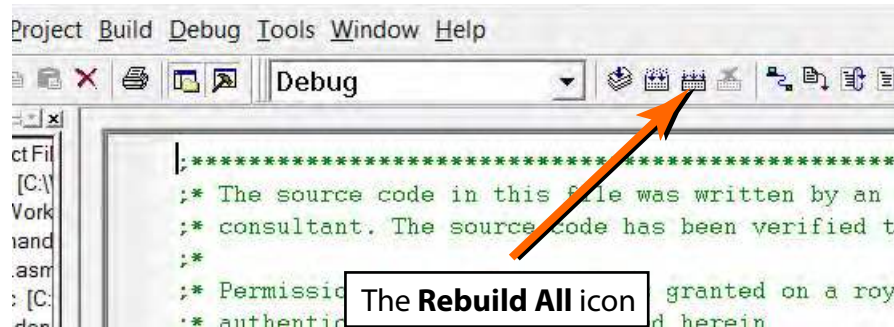

Figure 7. The Rebuild All Icon in ZDSII
5. Click the **Rebuild All** toolbar icon (indicated in Figure 7). When the build completes, a `Build Succeeded` message will appear.
5. Click the **Rebuild All** toolbar icon (seen in Figure 7). When the build completes, a Build Succeeded message will appear.